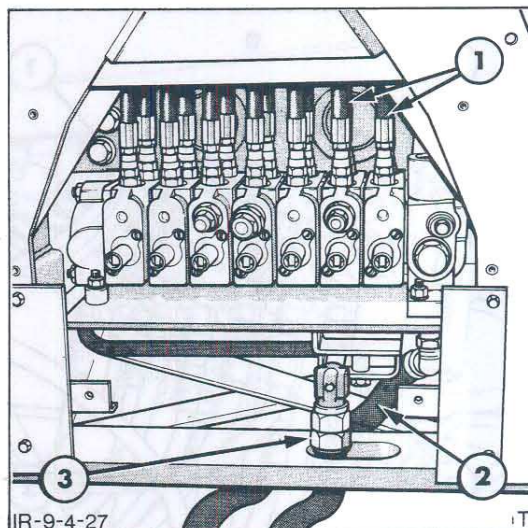

Figure 24
11. Disconnect the inlet and exhaust hoses to the valve assembly, Figure 24.